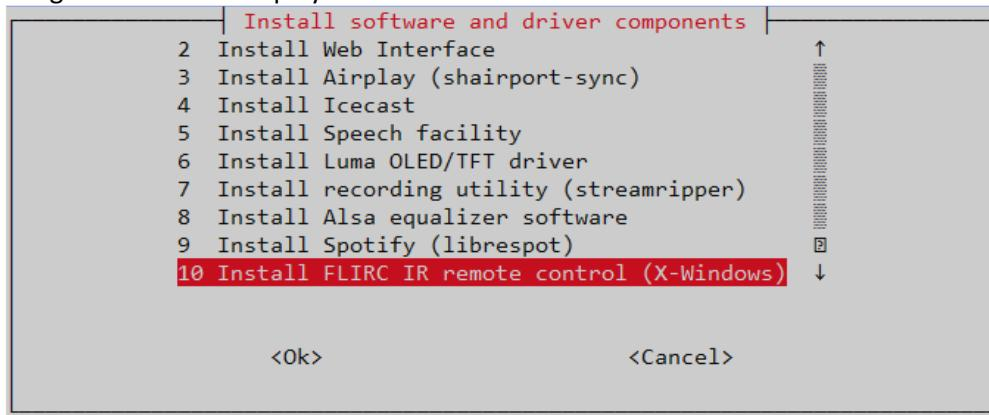

Figure 214 Install FLIRC IR remote control
- Select option **10 Install FLIRC IR remote control (X-Windows)** from the **radio-config** menu shown in *Figure 214 Install FLIRC IR remote control* on page 158. Note that you will need to use the down arrow key on your keyboard to see option 10.